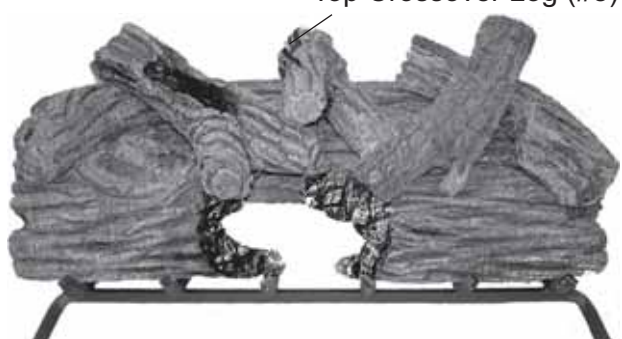

Figure 34 - Installing Top Crossover Log (#8)
9. Install top crossover log #8 as shown. *See Figure 34.*